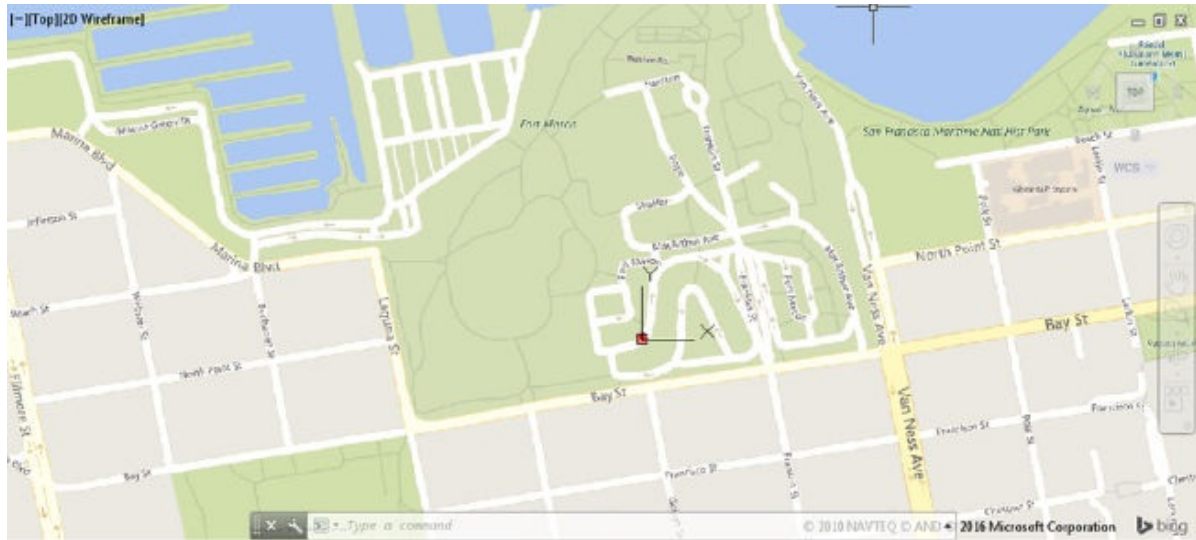

FIGURE 13.23 The Map Road view
Map Aerial Lets you select from a number of display options. You can choose to display a map (see Figure 13.23) or a combined map and aerial view. You can also turn the map off completely.
4. Zoom into the map view so that it looks similar to Figure 13.23.